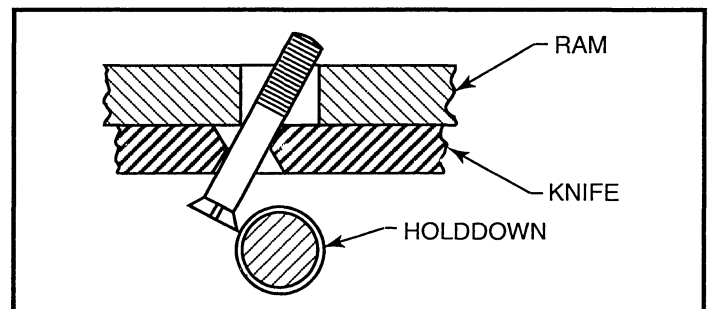

FIGURE 9-7 - Upper knife holder
15. Loosen all upper knife bolt nuts so knife can be moved from side-to-side. Remove all knife bolts, nuts and washers, except for the second one from each end. Knife bolts are removed from behind holddown units as shown in Figure 9-7.